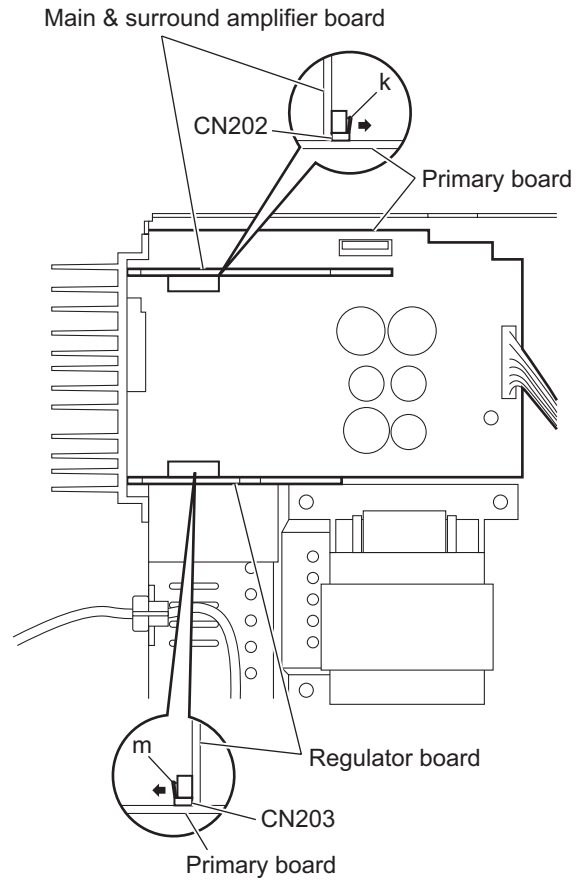

Fig.19
(See Figs.19 and 20)
- (1) From the top side of the main body, disconnect the regulator and main & surround amplifier boards in an upward direction while releasing the locks (**k**, **m**) of the connectors (**CN202**, **CN203**) on the primary board. (See Fig.19.)
When releasing the locks (**k**, **m**), take care not to break them. (See Fig.19.)